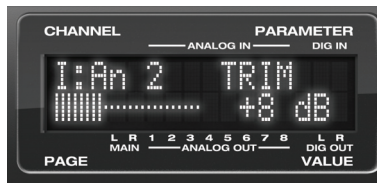

Figure 4-3: Setting the input trim for a TRS analog input pair.
- 5 After splitting the stereo pair, if necessary, turn the PARAM knob until you see the TRIM parameter in the LCD (Figure 4-3):